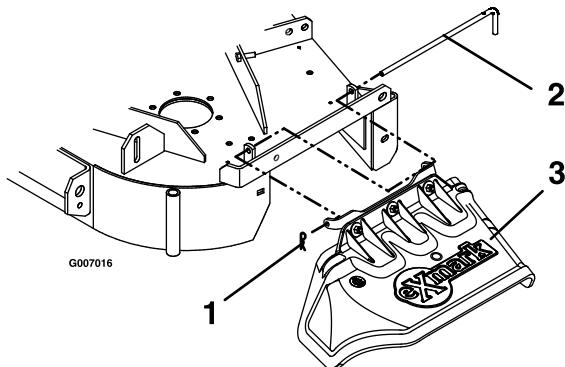

Figure 6
6. Install the discharge chute using the chute pivot pin and hairpin (see Figure 6).